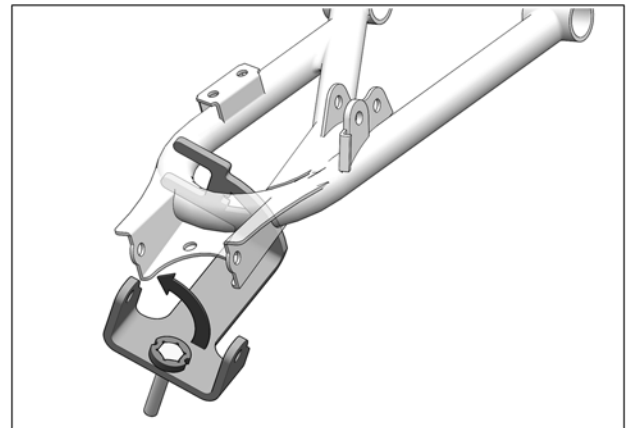

Fig. 8
7. Hook back end of bracket on suspension arm as shown on Fig. 8